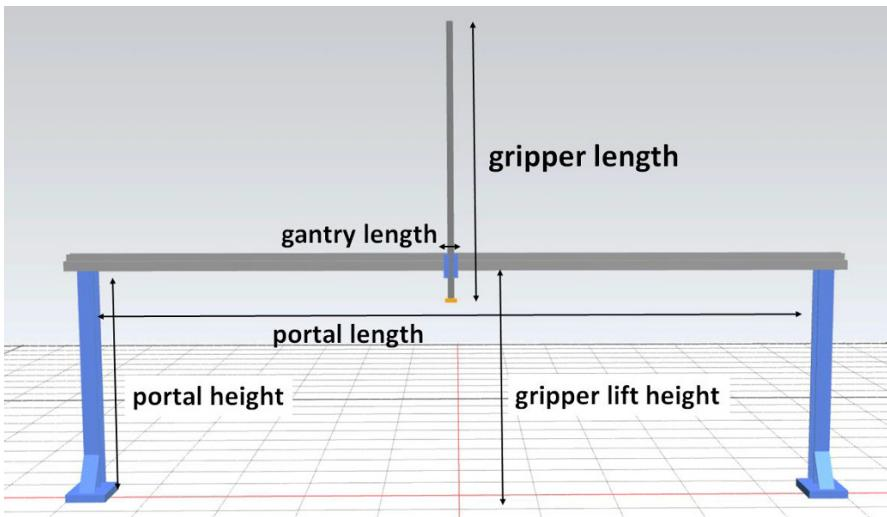

Fig. 7.89 Settings of the gantry loader
- A double-clicking on GantryLoader opens a configuration dialog. You need to set at least the dimensions of the portal and the gripper as shown in Fig. 7.89: